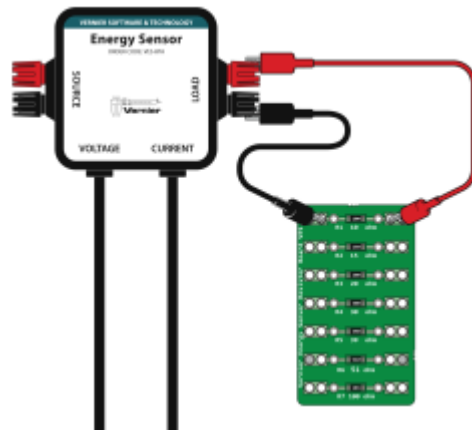

Figure 3
- Clip one lead to the black Load terminal and then to the hole on the left side of the 10 ohm resistor (see Figure 3).